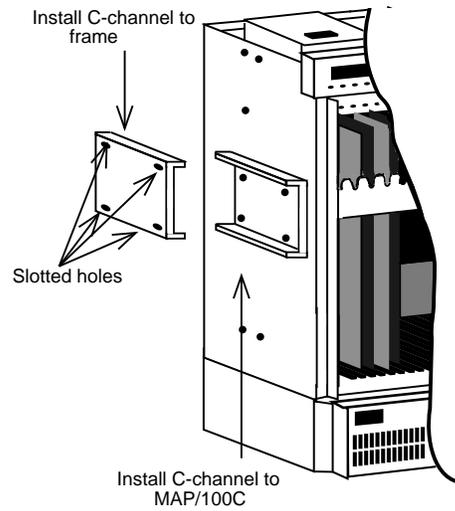

Figure 2-5. Installing C-Channel Brackets onto the Frame and the MAP/100C
3. Install C-channel brackets on the 5ESS Switch frame and on the MAP/100C. There are two sets that accompany each unit. The slotted C-channel must be installed onto the frame (Figure 2-5). These guides aid you in installing in the unit without having to hold it up to secure it to the cabinet.
6. Attach the two cabinet frame dress filler panels (A10070 and A10071) to the frame beneath the mounting brackets (Figure 2-5 on page 2-11)